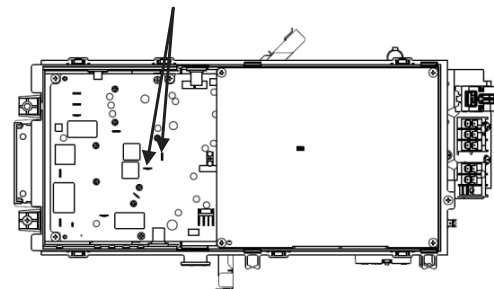

Fig.2 Position of terminal
(Be sure to measure voltage (DC) between T26 and T27 on inverter PCB, and check that the voltage is discharged sufficiently(10V or less).(Refer to Fig.2))